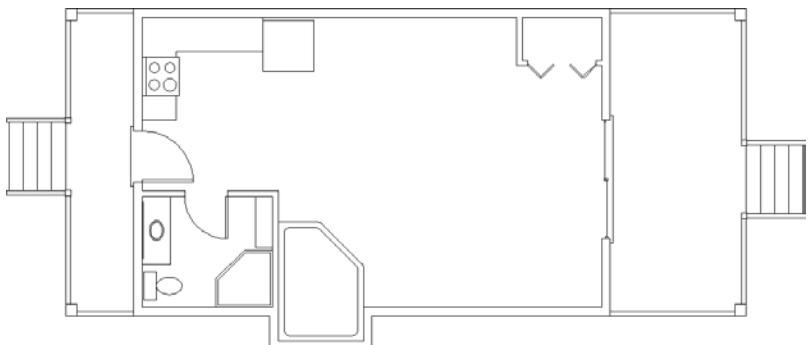

FIGURE 5.75 The completed floor plan zoomed to fill the screen
10. Zoom to the drawing's extents. Your cabin should look like Figure 5.75.